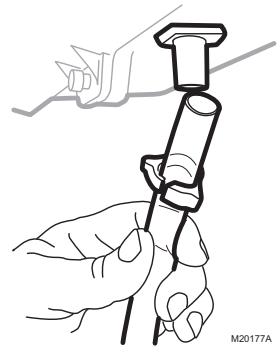

Fig. 7. Installing the drain tubing.
4. Connect a 1/2 in. (13 mm) drain tube to the humidifier drain fitting and run to the floor drain (see Fig. 7).